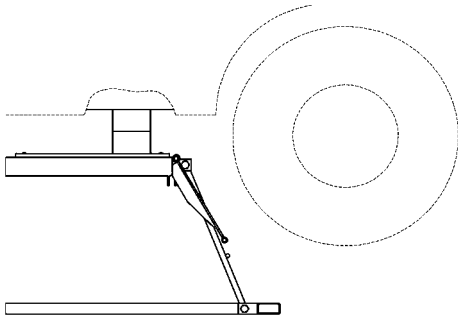

Fig 5 Optional Spacer Pads
- D. Use optional 5" and 7" spacer pads if additional height between lift and vehicle is required to clear underbody parts as shown in Fig. 5.